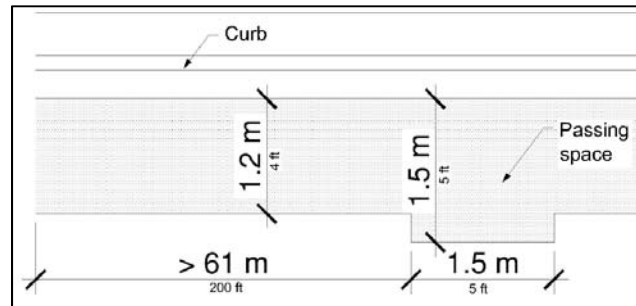

Figure 19 - Accessible Route Passing Spaces
- Passing spaces are 5 ft. x 5 ft. minimum (where installed) (see **Figure 19**). *PROWAG R302.4*